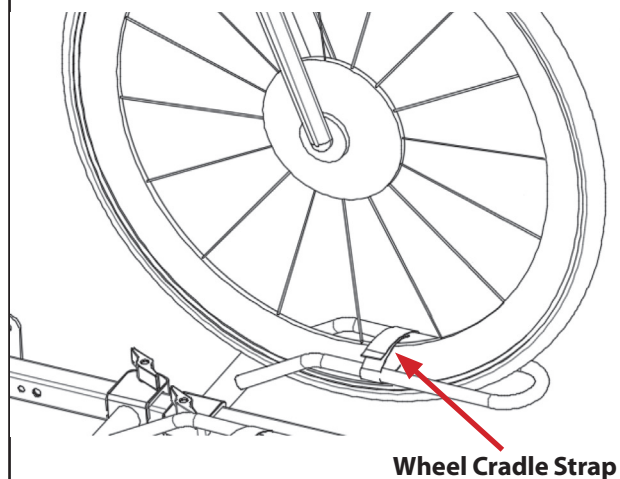

FIGURE 10
Loop (1) Wheel Cradle Strap over each wheel and secure. (See **Figure 10**)